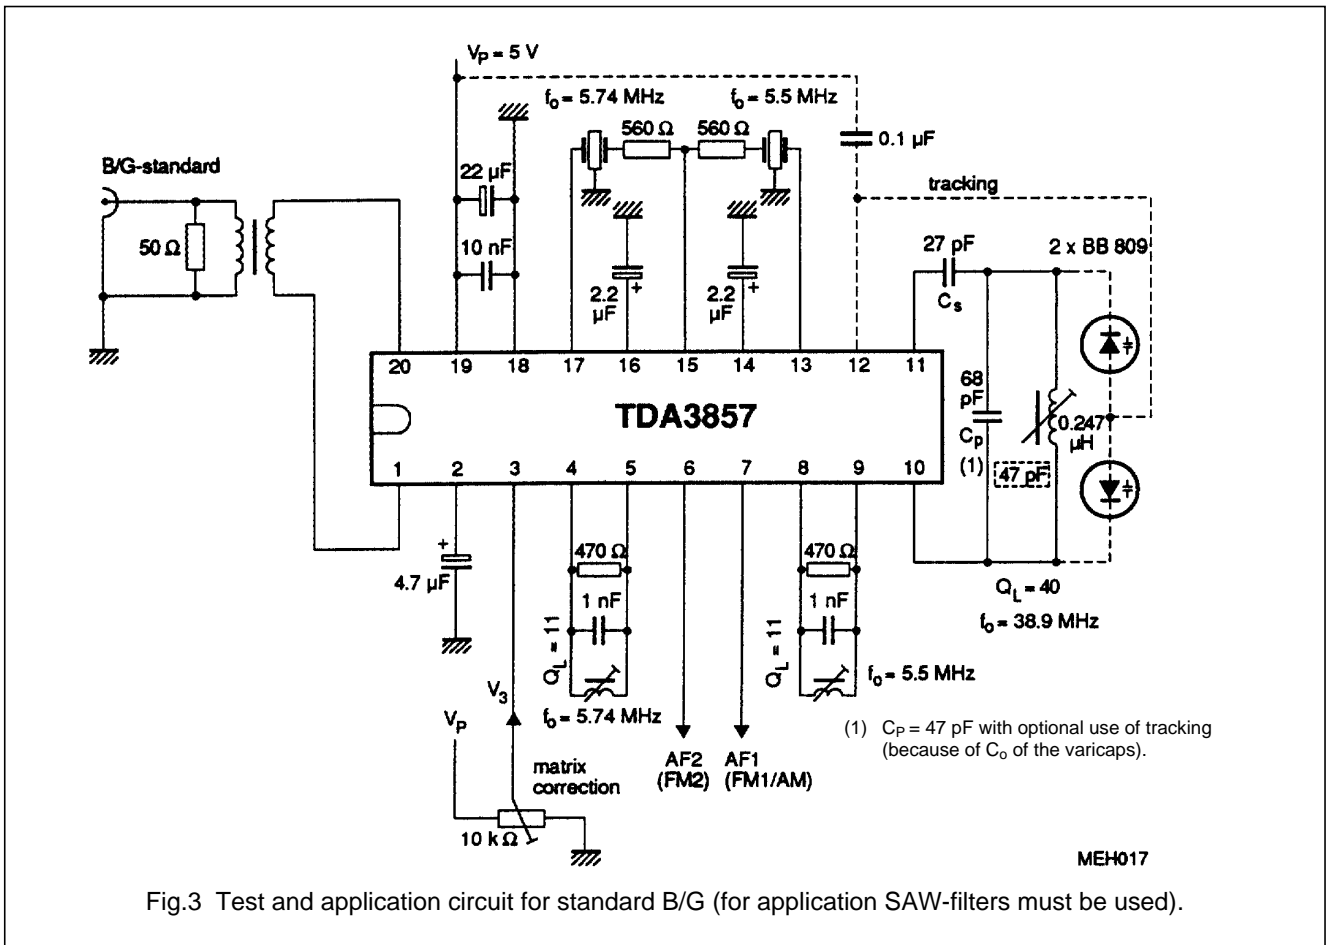

Fig.3 Test and application circuit for standard B/G (for application SAW-filters must be used).
$V_P = 5$  V and  $T_{amb} = +25$  °C; measurements taken in Fig.3 with  $f_{VC} = 38.9$  MHz,  $f_{SC1} = 33.4$  MHz and  $f_{SC2} = 33.158$  MHz. Vision carrier (VC) modulated with different video signals, modulation depth 100% (proportional to 10% residual carrier).